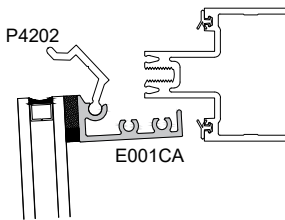
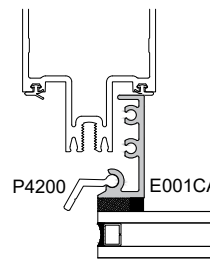

Fig. 57.1
Fig. 57.3
- STEP 2: Set sill of assembled cassette frame on anchor clips P4223 as shown at Fig. 57.1. Note location of jamb frame position shown at Fig. 57.3